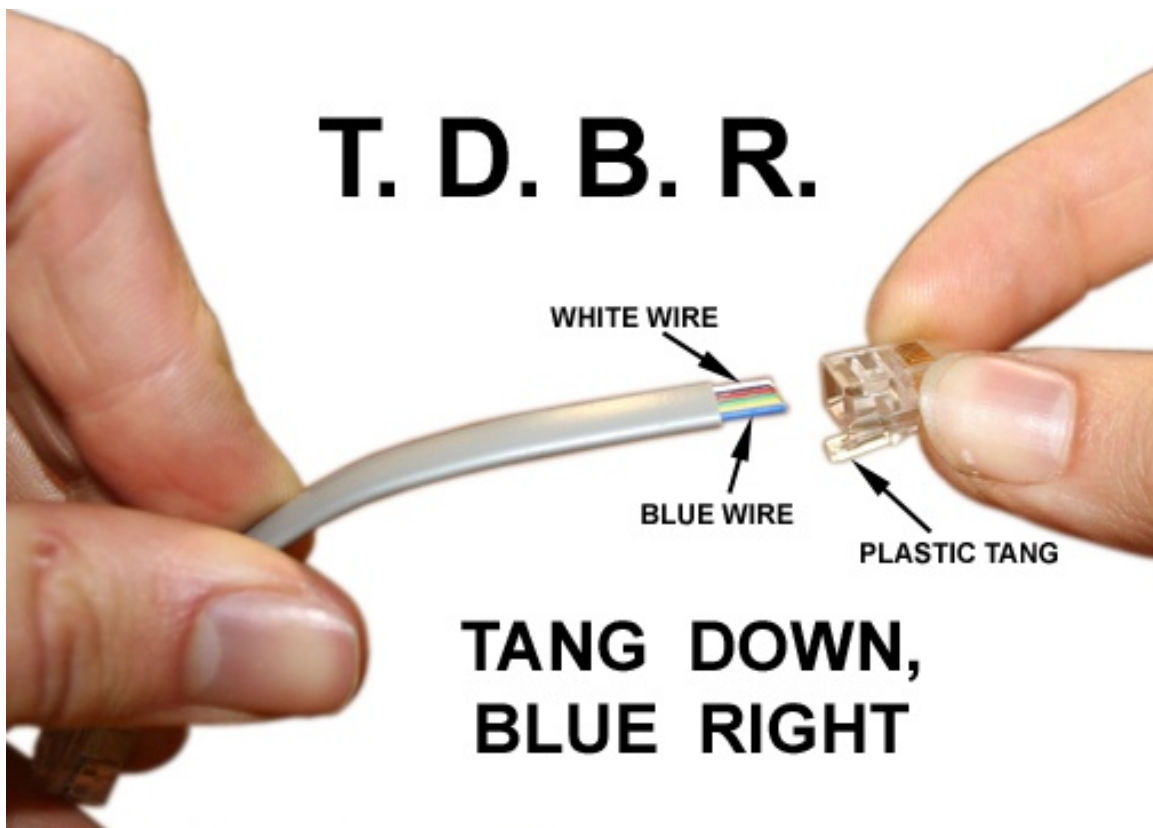

figure 06
follow the proper cable construction techniques listed below and make sure that all the wires are installed in the correct orientation. (See figure 06)
Step 5: Now take an un-crimped plug-end in your right hand and with the tang oriented on the bottom side, slide the outward facing end of the flat RJ cable into the slot in the un-crimped plug. Make sure it is not crooked and push it all the way into the un-crimped plug. (see figure 06)